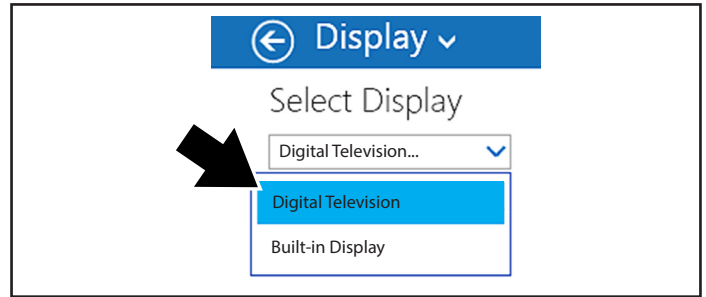

Figure 8
3. Select Digital Television from the Select Display menu (Figure 8).